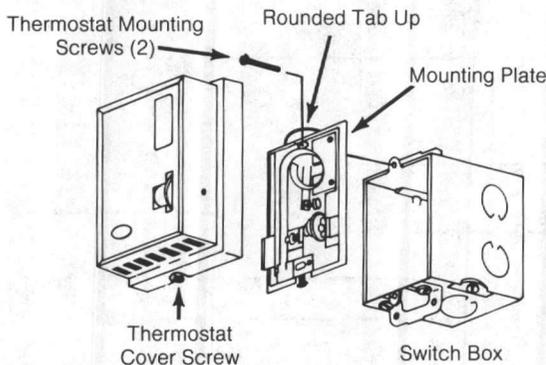

Figure 2. Installation
2. Remove thermostat cover by loosening cover screw and fasten thermostat to switch box with screws provided or to wall (obtain fasteners locally). See Figure 2.